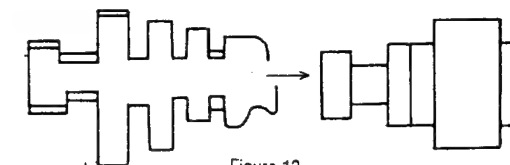

Figure 13
- 2— The signal at the emitter of T404 is observed on oscilloscope. The peaks are adjusted with F1403-Bell filter-as shown in Figure 13.